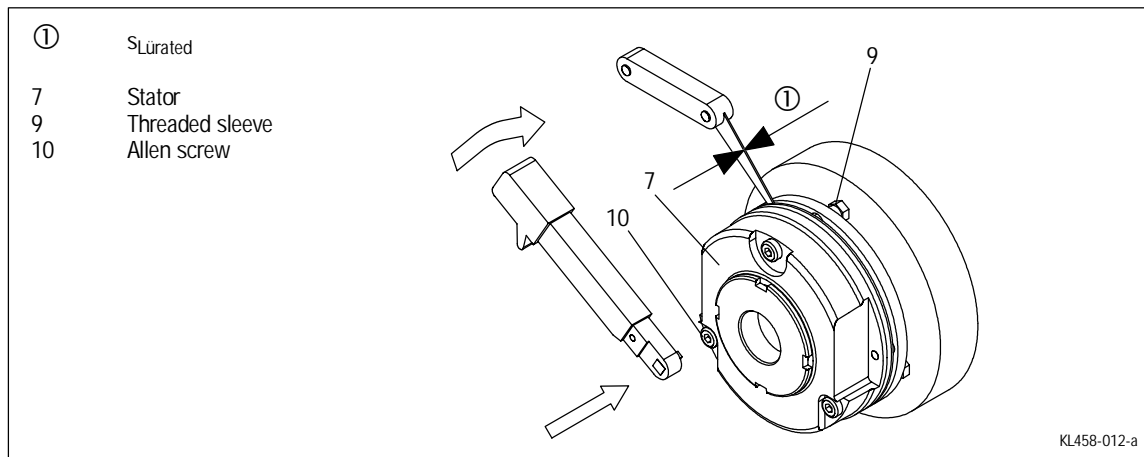

FIG 8
6. Tighten the screws (10) evenly (for torques see rated data table chapter 3.3 and FIG 8).
7. Check the air gap  $s_{Lürated}$  near the bolts (10) by means of the thickness gauge ( $s_{Lürated}$  see rated data table chapter 3.3 and FIG 8).